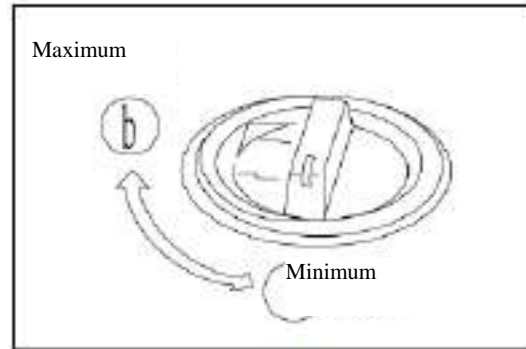

Figure 3-74 Throttle control knob
The control knob (4) is used to control the engine speed and power output, as shown in Figure 3-74.